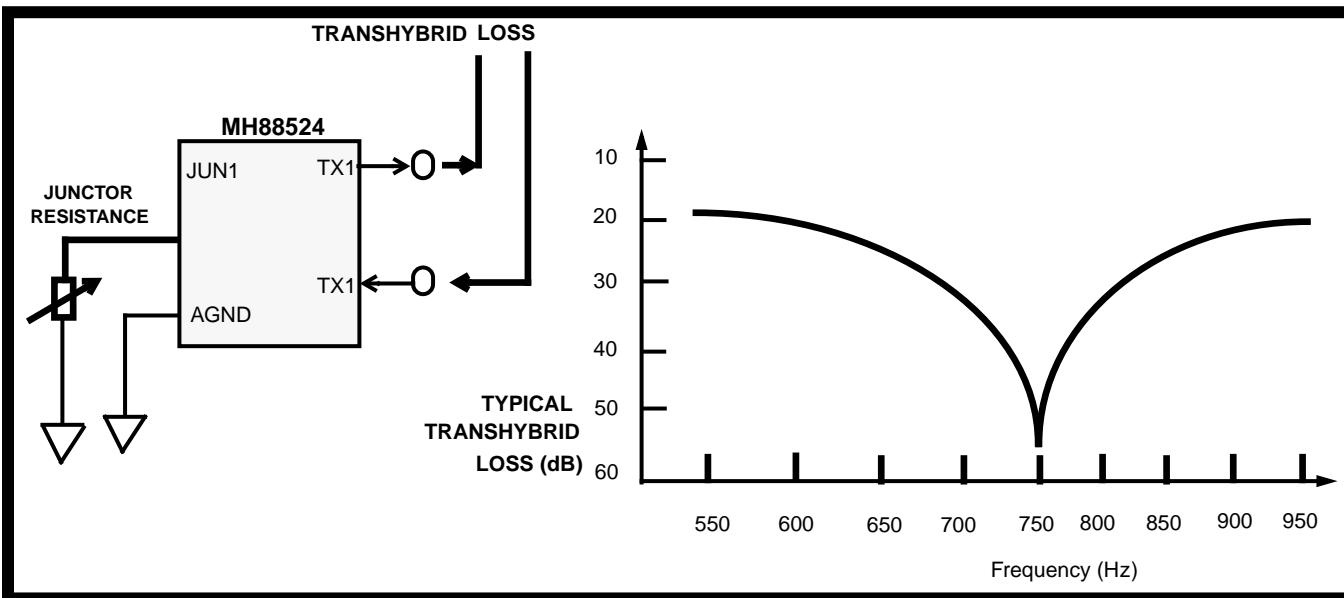

Figure 4 - Transhybrid Loss vs Junctor Resistance with MH88524
③ See Figure 4.
Transhybrid loss is maximised when the JUNi termination impedance is 754Ω . In addition, good transhybrid loss is indicated in Figure 4 and AC Electrical Characteristics.